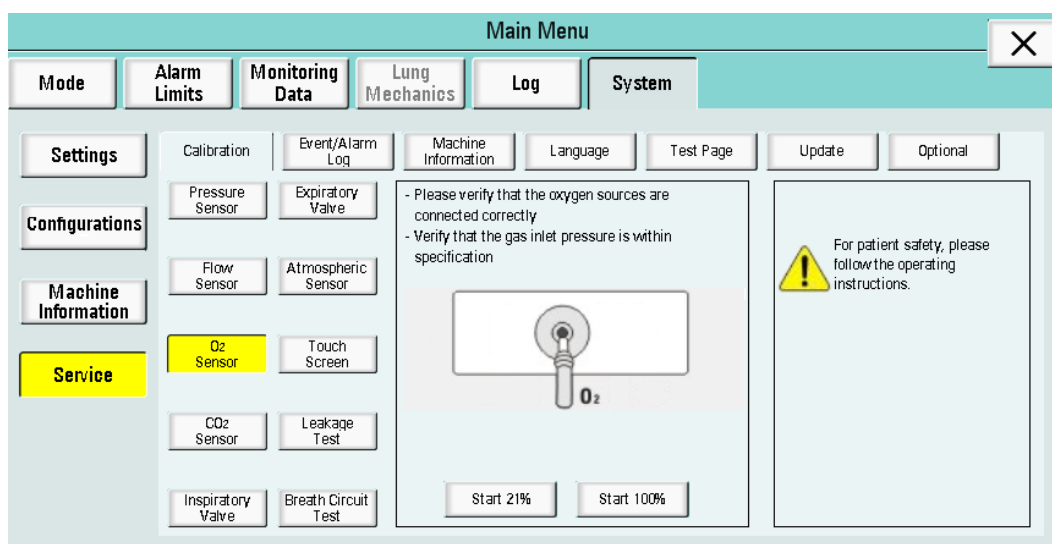

Figure 6-65
(3) O₂ Sensor Calibration: Click “O₂ Sensor” to enter the interface. A message displayed: “Please verify that the oxygen source are connected correctly. Verify that the gas inlet pressure is within specification.” A legend will also be shown. There are two buttons below the legend: “Start 21%” and “Start 100%”. Choose the needed one and click, as shown in Figure 6-65. The remaining procedure is the same as described above.